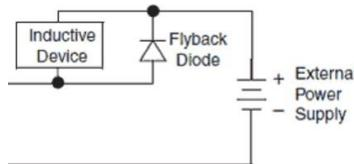

Figure 6.4: Flyback diode
To prevent voltage (V) induced damage to the BMS IO port when the contactor is turned off, it is mandatory to use a so-called flyback diode in parallel with the contactor electromagnet as shown in Figure 6.4. Some contactors, such as those supplied by Lithium Balance come with built-in flyback diodes.